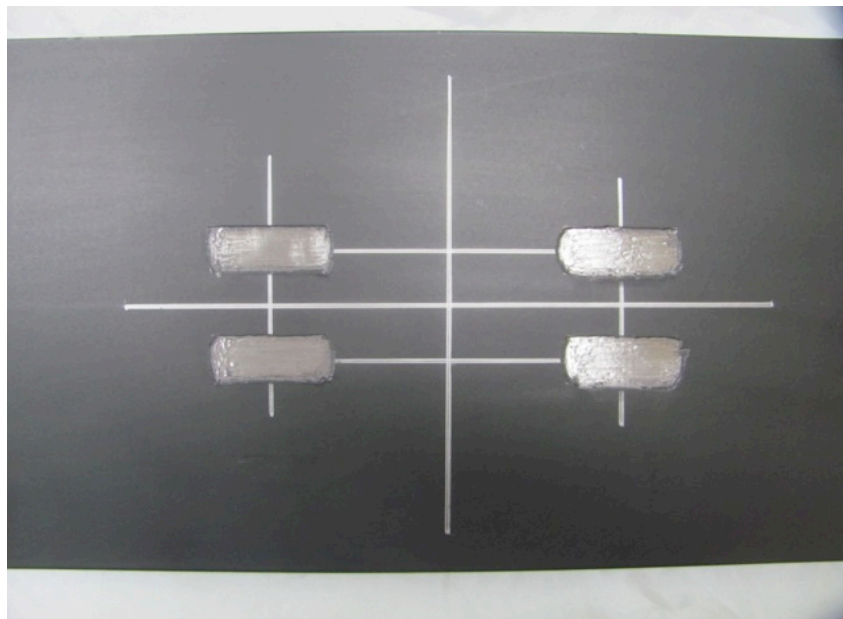

Figure 12: Steel Member Prepared for Adhesive
4. Remove paint or scale from the areas shown in Figure 12 using a power grinder until a clean metal surface is obtained.